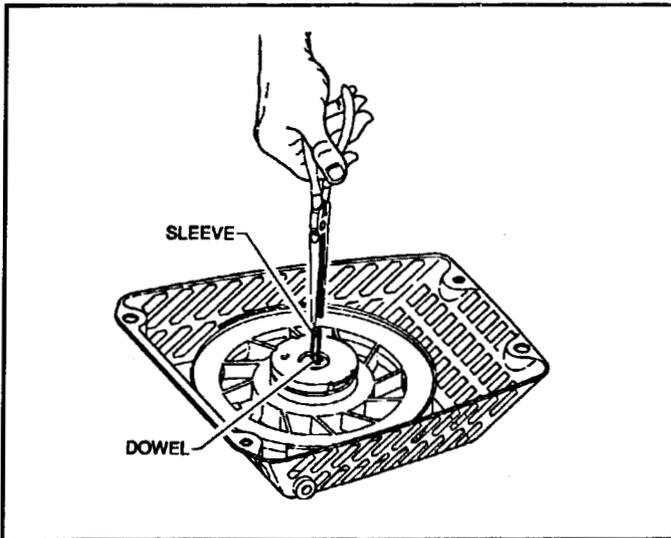

Figure 24
2. Remove the alignment pin from the Phillips head screw in the center of the rewind mechanism. See Figure 24.